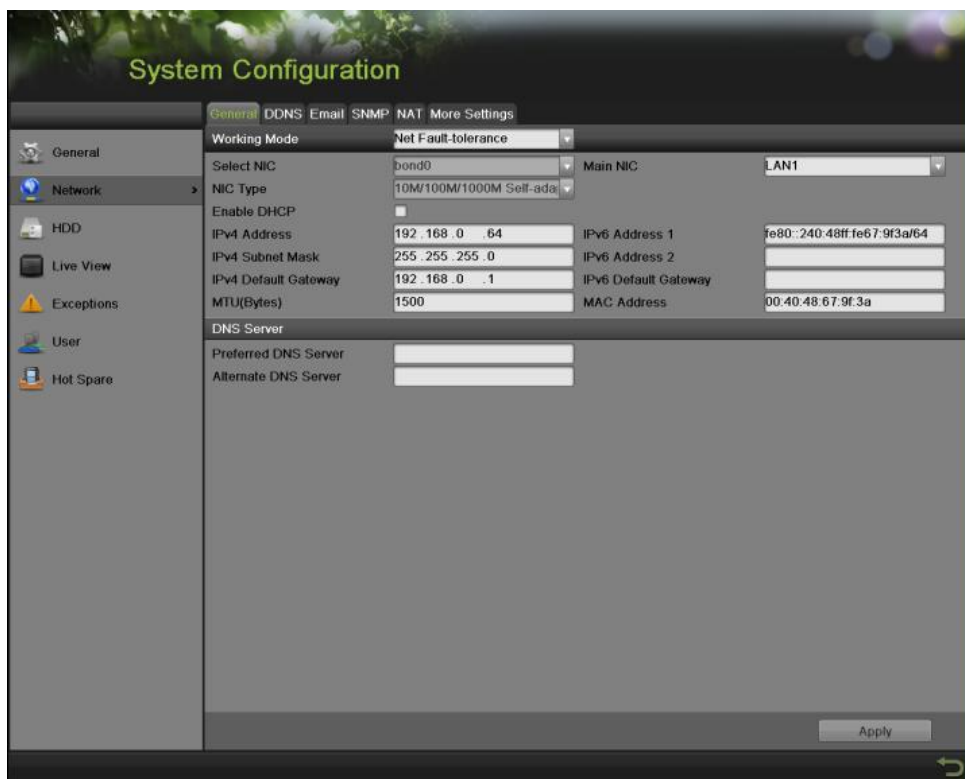

Figure 62 Network Settings Menu
1. Enter the Network Configuration menu, shown in Figure 62 by going to Menu > System Configuration > Network.